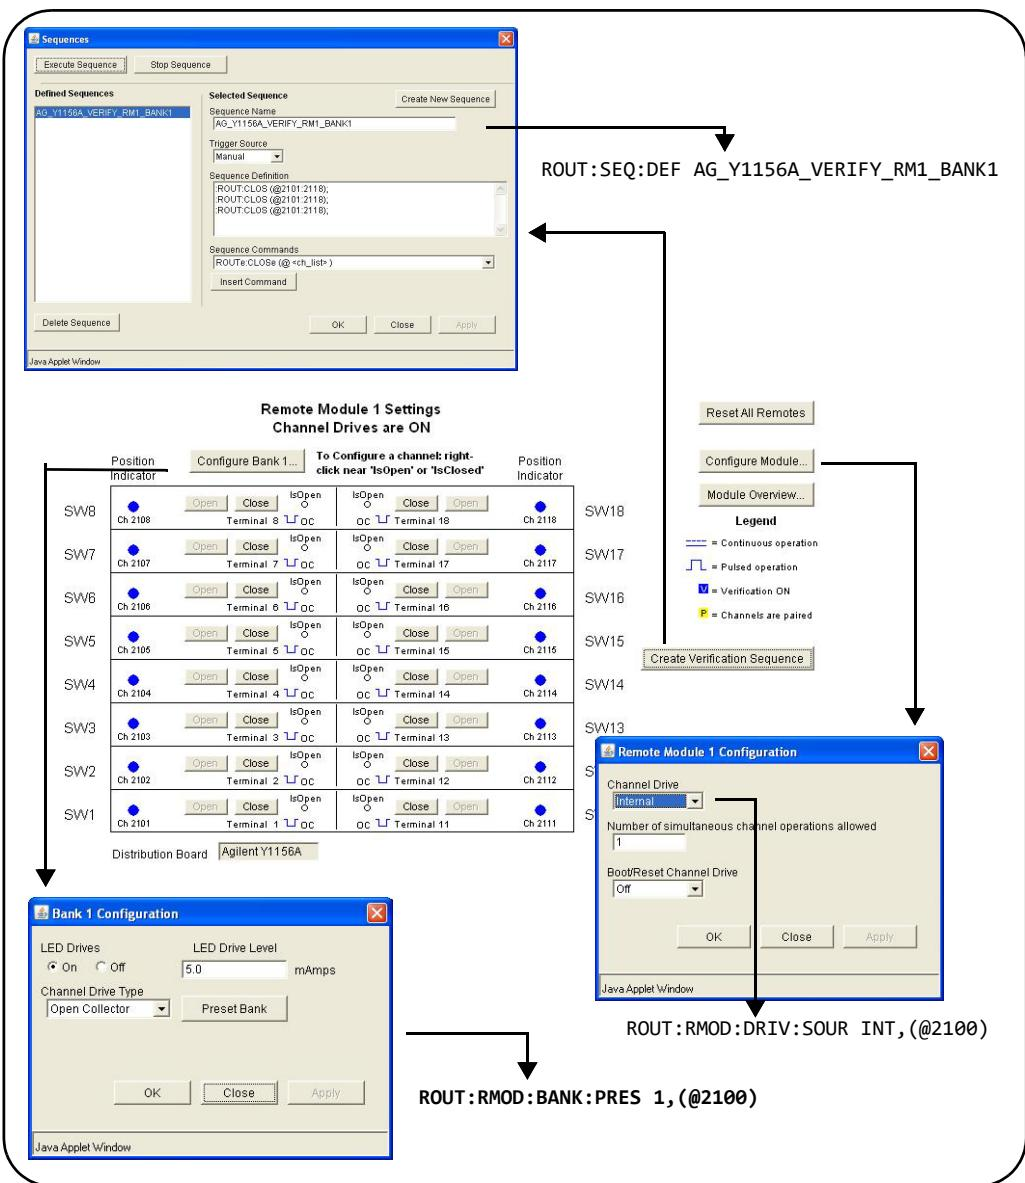

Figure 4-8 Running the Y1156A Verification Sequence.
- 4 Select 'Allow Full Control' and in the 'Browser Web Control' window, locate the bank and Y1156A programming diagram. An example of the diagram is shown in Figure 4-8. For this example, the 34945A is installed in 34980A slot 2.